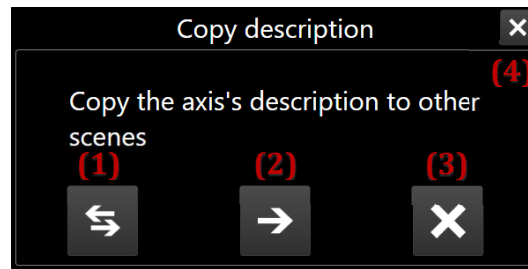

FIG. 41: LABEL COPY DIALOGUE
To copy the label, use the button (11), see Fig. 35. After clicking the button, the dialogue window opens up, see Fig. 41. By clicking the button (1), labels of the selected devices will be copied to every scene of the performance. Button (2) copies labels only to the scenes that are positioned after the active scene. Buttons (3) and (4) will close the dialogue.